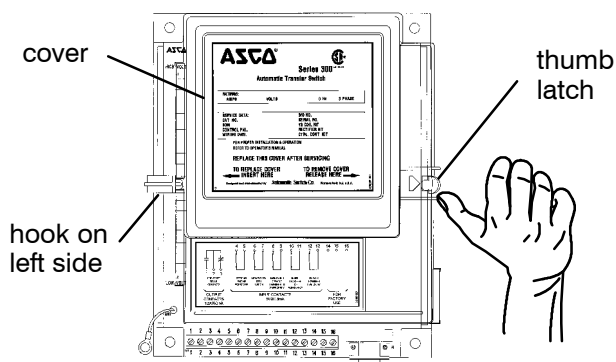

Figure 4-1. Controller cover latch.
3. Remove cover from the controller by releasing latch on right side with your thumb. See Figure 4-1.